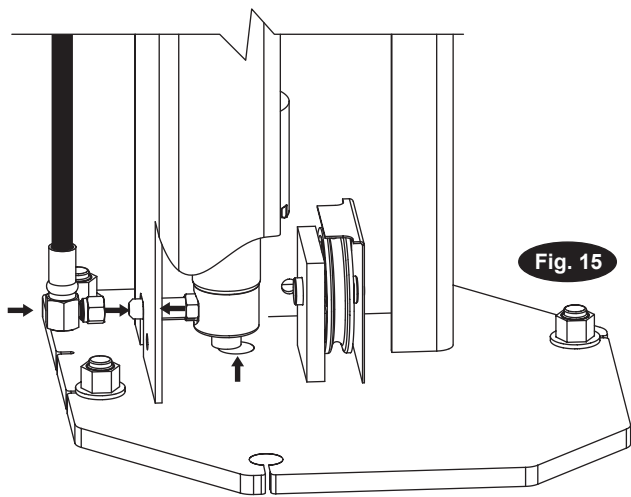
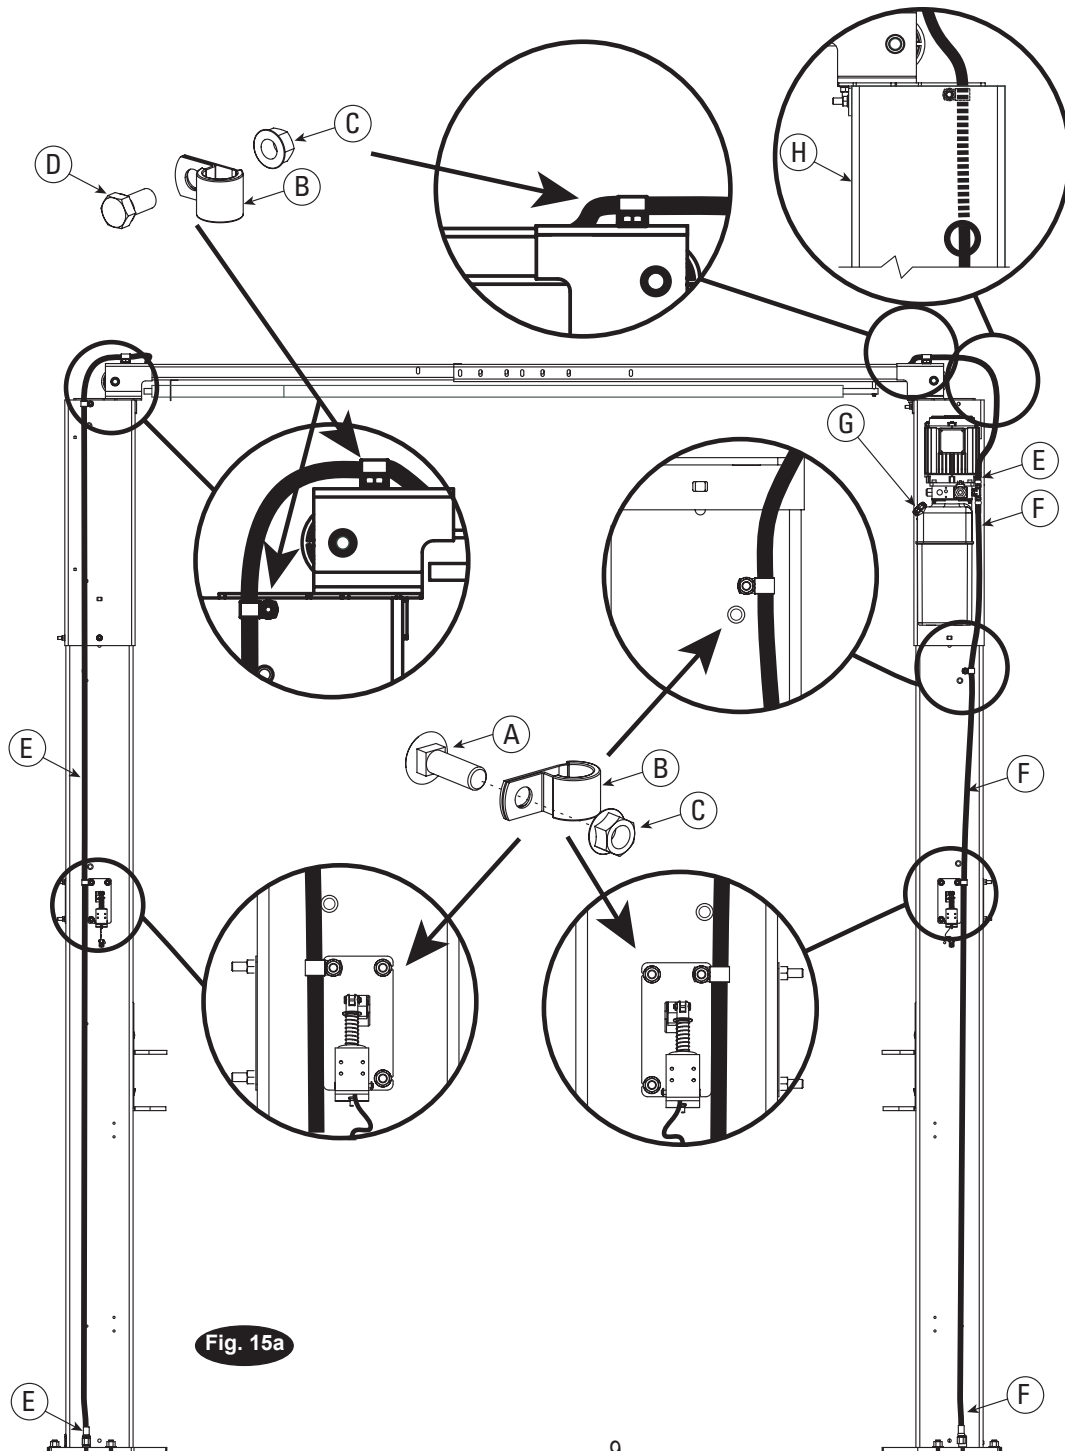

Fig. 15
Fig. 15a
- A) Raise cylinders out of base plates, Fig. 15.
B) Attach hoses to cylinder, Fig 15 and Fig 15a.
D) Install hoses and hose clips, Fig. 15a.
E) Item G of Fig. 15a illustrates hose routing for EH1 and EH2 models. Hose will route through hole with grommet on the inside of column and a hose clamp will hold it in place from inside.
Remove fill-breather cap on power unit, Fig. 15a. Fill to MIN___ mark on tank with Dexron III ATF, or hydraulic fluid that meets ISO 32 specifications. Replace fill-breather cap.